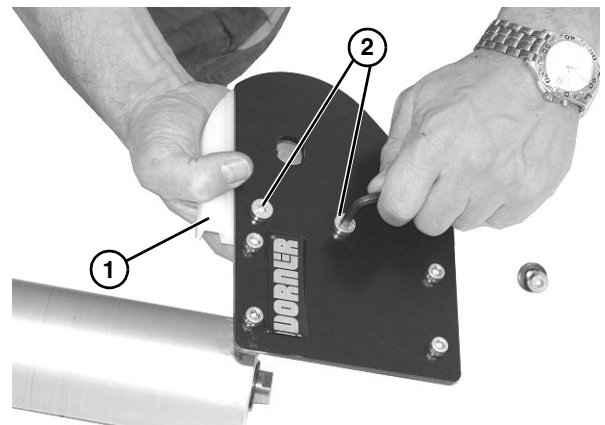

Figure 44
7. Check idler terminal assembly (Figure 44, item 1) for wear. If worn, remove two low head cap screws (Figure 44, item 2) and replace.